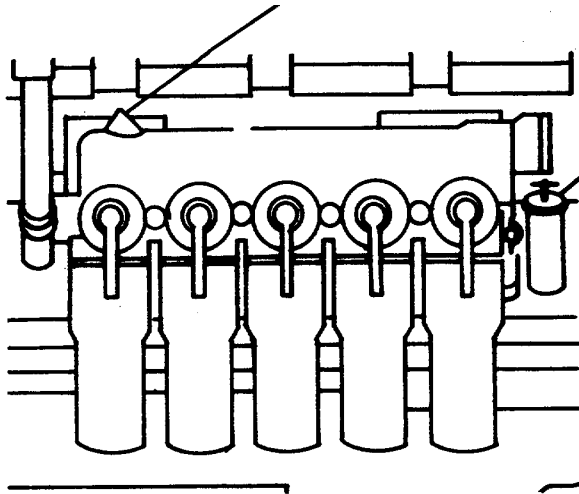
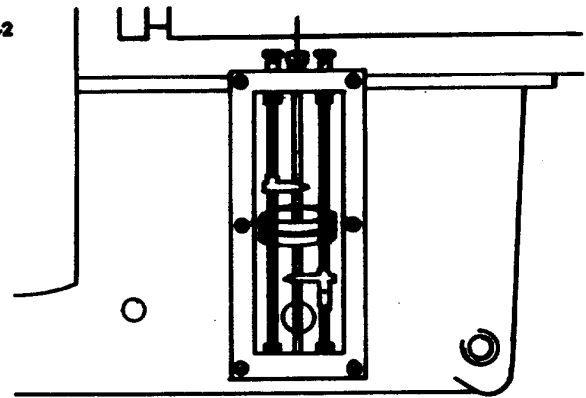

FIGURE 2-1. Lube Oil Priming Point and Oil Fill/Dipstick Arrangement.
FIGURE 2-2. Oil Level Sight Glass.
- (2) Priming the Lubricating System. The engine is primed automatically by an external electrically driven pump. However, in the event of problems in the self priming system, the following procedures should be performed before starting the engine:
- (b) Fill crankcase until oil on dipstick (2, FIG. 2-1) or in liquid level gauge (FIG. 2-2) reaches the "H" (High) mark.
- (c) Remove plug (1, FIG. 2-1) from lubricating oil filter head and use this opening as the priming point.